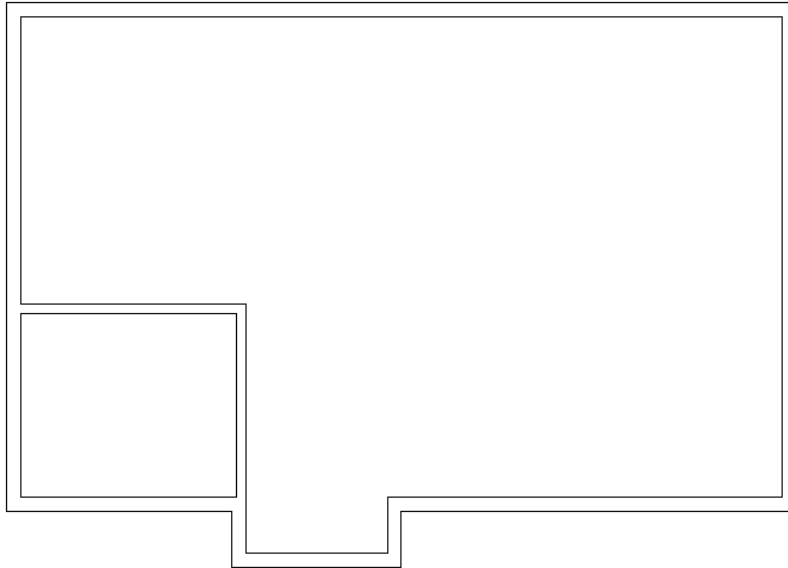

FIGURE 4.23: The second trim is completed.
5. Zoom Previous by typing Z,↵P,↵. Figure 4.23 shows the results.